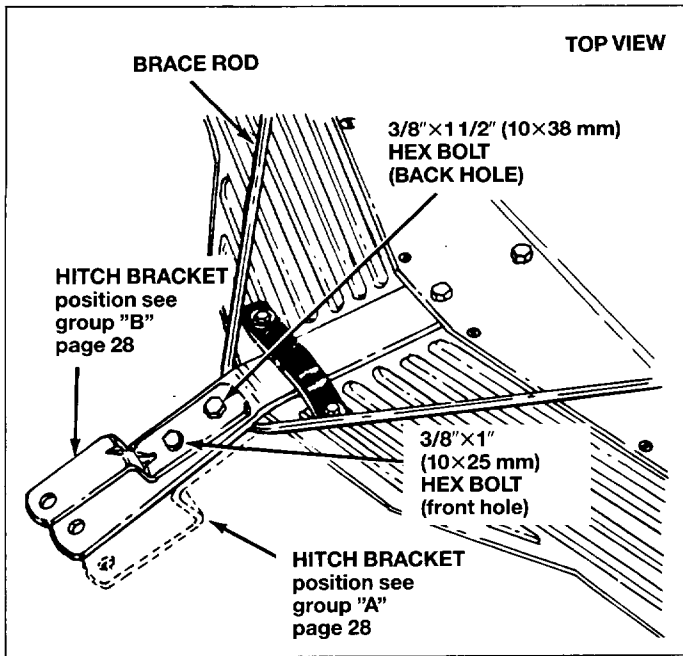

Fig. 6
NOTE! Before assembling the hitch bracket to the hitch bar refer to figure 6 and page 28 to determine which position is required for your riding mower.
5. Assemble the hitch bracket to hitch bar with one 3/8"×1" (10×25 mm) hex bolt (in the front hole) and 3/8" (10 mm) hex lock nut. Do not tighten at this time. See figures 6 and 7.
6. Assemble the hitch bracket with one 3/8"×1-1/2" (10×38 mm) hex bolt (in the back hole), large flat washer and 3/8" (10 mm) hex lock nut. (Do not tighten at this time). See figures 6 and 7.